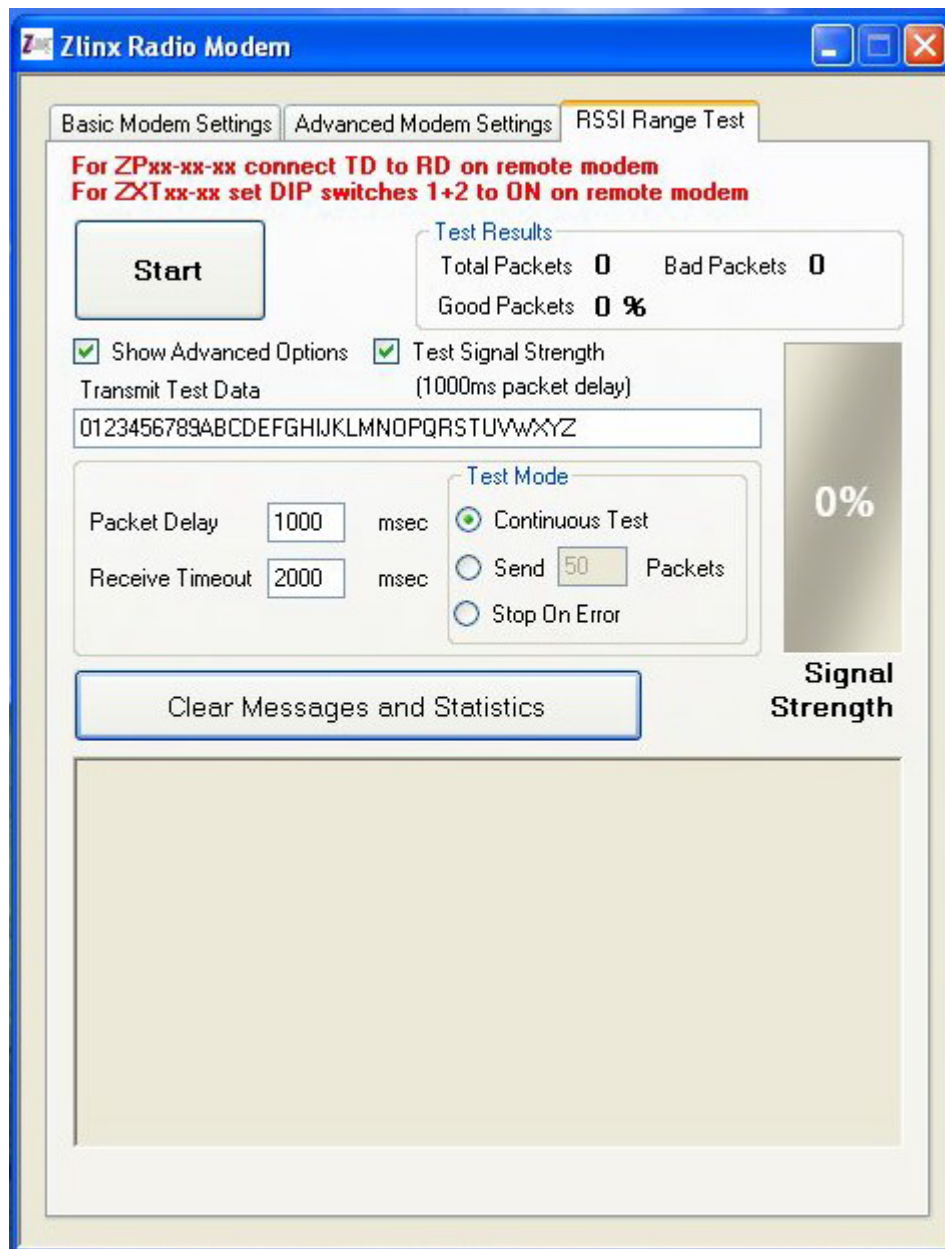

Figure 13. RSSI Range Test Window
14. Click on the **RSSI Range Test** tab near the top of the window. The RSSI Range Test window will be displayed (Figure 13).